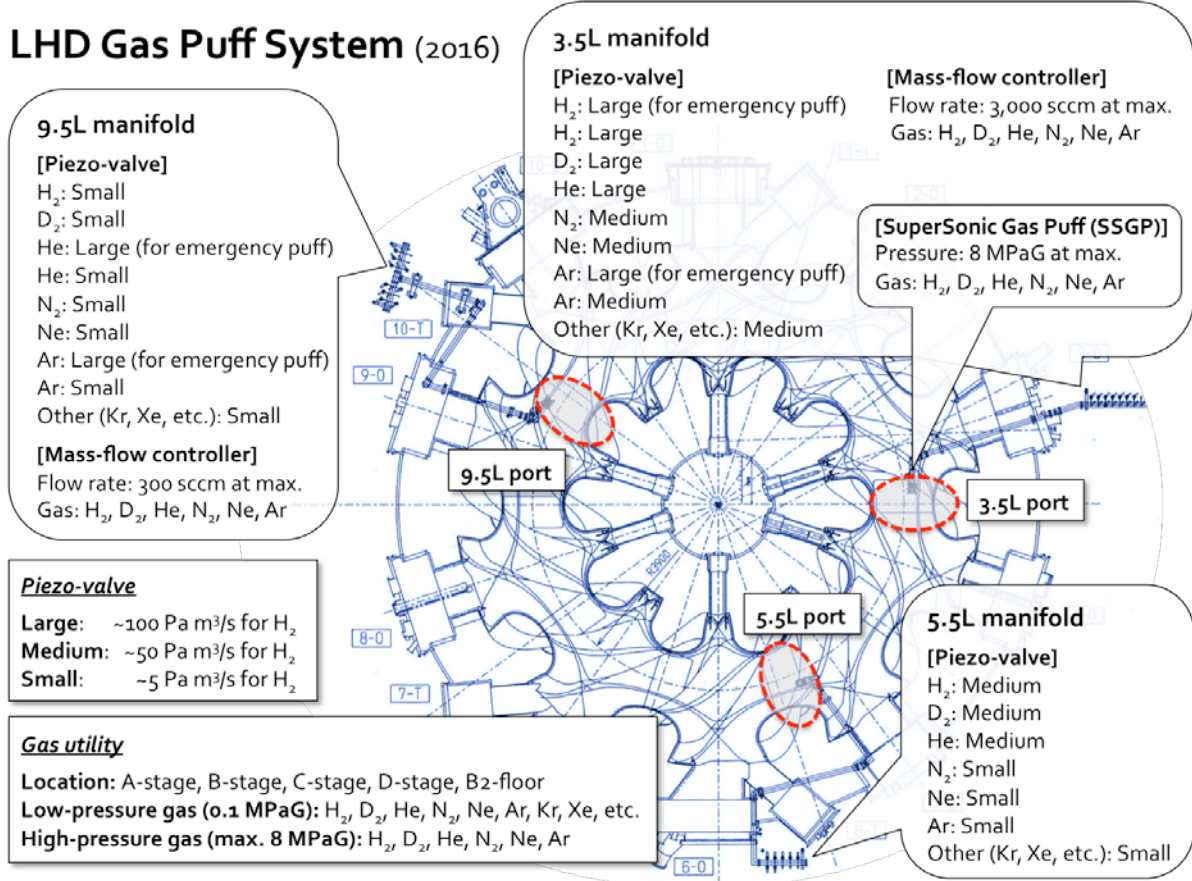

Fig. 1. Distribution of piezo-valves, mass-flow controllers, and supersonic gas puff (SSGP) in the LHD.
the case of H₂, are distributed at 3.5L, 5.5L, and 9.5L ports (see Fig. 1) [1].
- Two types of mass-flow controllers with the maximum flow rate of 3,000 sccm (standard cubic centimeter per minutes) and 300 sccm, in the case of H₂, are distributed at 3.5L and 9.5L ports, respectively (see Fig. 1). At each port, gas species of H₂, D₂, He, N₂, Ne, and Ar, are available.